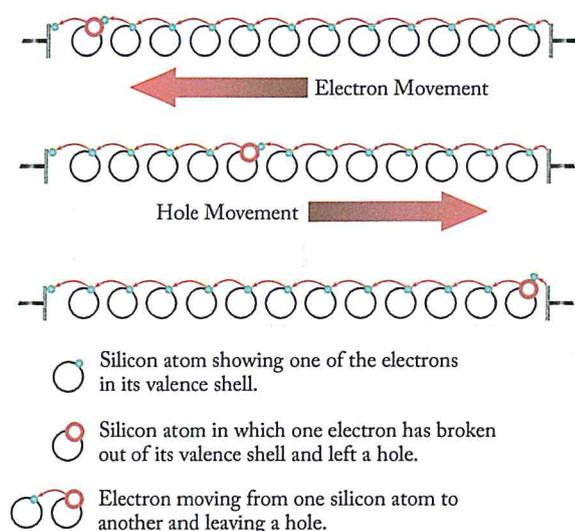

Figure 1-10. A hole moving through atoms.
**Figure 1-10** shows the progression of a hole moving through a number of atoms. Notice that the hole illustrated at the far left of the top depiction of the figure attracts the next valence electron into the vacancy, which then produces another vacancy called a hole in the next position to the right. Once again, this vacancy attracts the next valence electron. This exchange of holes and electrons continues to progress, and can be viewed in one of two ways: electron movement or hole movement. For electron movement, illustrated by the top depiction of **Figure 1-10**, the electron is shown as moving from the right to the left through a series of holes. In the second depiction in the figure, the motion of the vacated hole can be seen as migration from the left to the right, called hole movement. The valence electron in the structure will progress along a path detailed by the arrows. Holes, however, move along a path opposite that of the electrons.